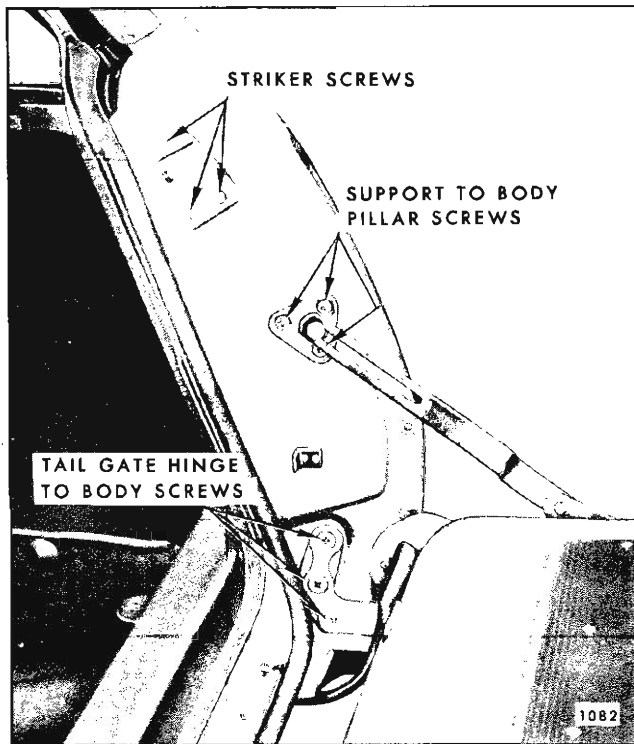

Fig. 2F22—Rear Body Pillar Hardware - Right Side
2. Remove screws securing support to body (Fig. 2F22) and support to tail gate (Fig. 2F21) and remove support assembly.